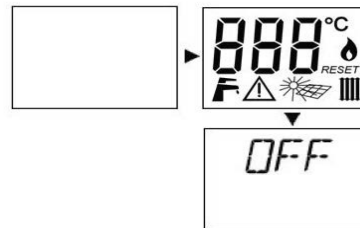

Figure 2.2
• Using a double pole switch, which is provided during the installation, switch on the power supply. On LCD the following symbols will appear in order. see Figure 2.2.